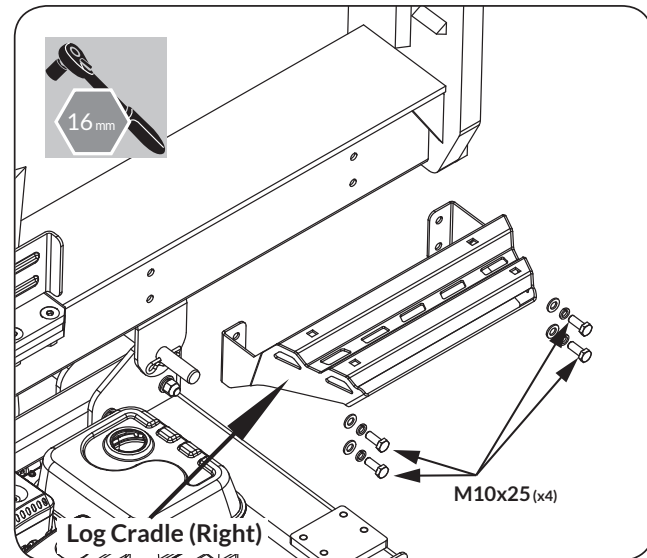

Figure 10a
1. Align the holes on the right log cradle to the holes on the beam mounts. Insert the M10x25 bolts, spring washers, flat washers and securely tighten. (See Figure 10a)